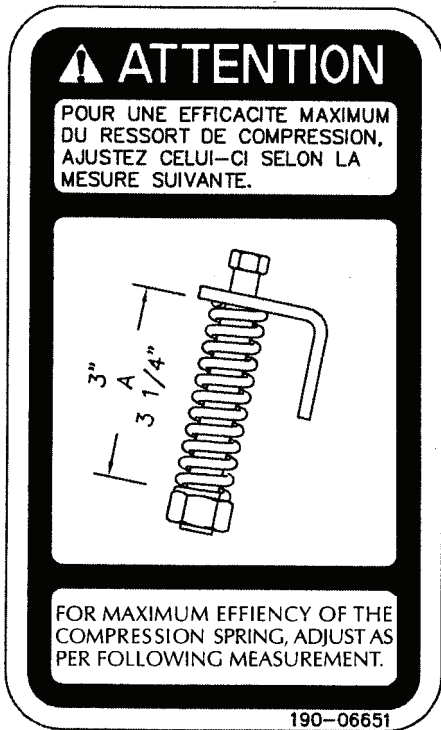

Figure 15
- 3) Check chain take-up adjustment. The spring maintaining the tension must be compressed to a length between 3" and 3 1/4" (Fig. 15).